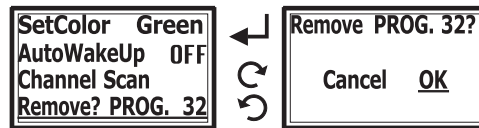

Fig. 25
(3) CAUTION:
(O) Remove? function, Fig. 25: